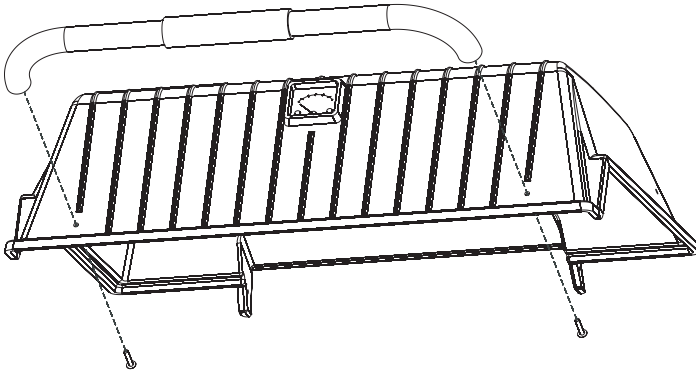

Figure 29
9. Fasten the lid handle to the grill body top with two #10-24 x 1" screws. **See Figure 29.**